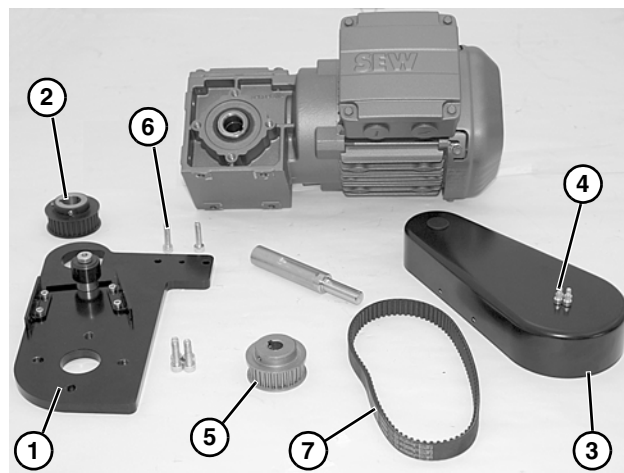

Figure 4
1. Typical components (Figure 4).
Flat belt mounting package shown above (Figure 4), cleated belt mounting package similar.